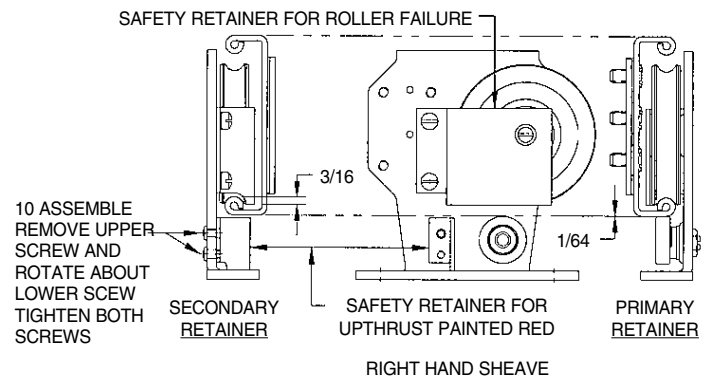

Figure 5: Primary and secondary retainers
2. Code requires a primary and a secondary means of roller retention. Once the doors are properly adjusted, set each upthrust roller (primary retention) to within 1/64in. of the bottom of the track. The safety retainer (secondary retention) must now be pivoted back into position and tightened (Figure 5).